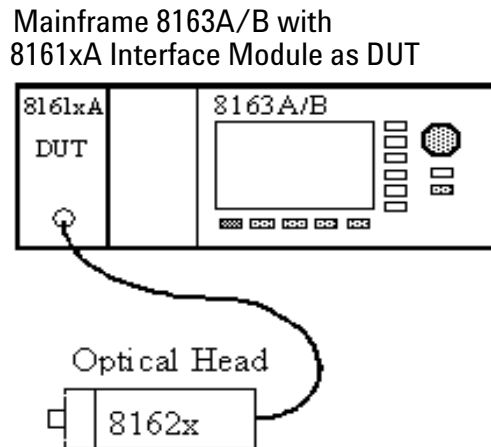

Figure 1 Functional Test Setup
- 1 Set up the equipment as shown in **Figure 1**